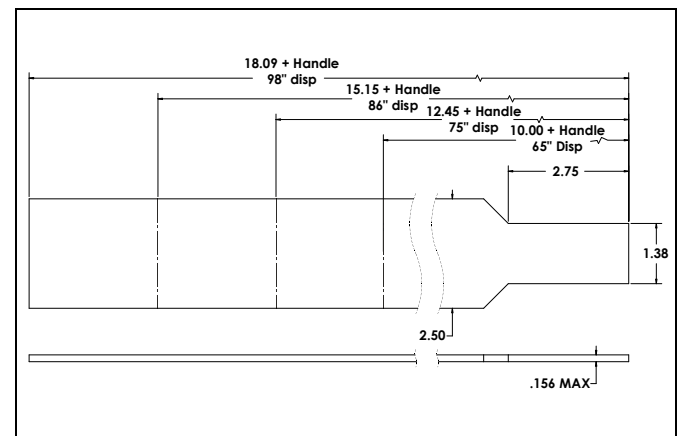

Figure 37
1. Refer to the dimensions in Figure 37 or use template and table provided on page 19 to create a shim tool from cardboard or another similar rigid material. (See Figure 37)